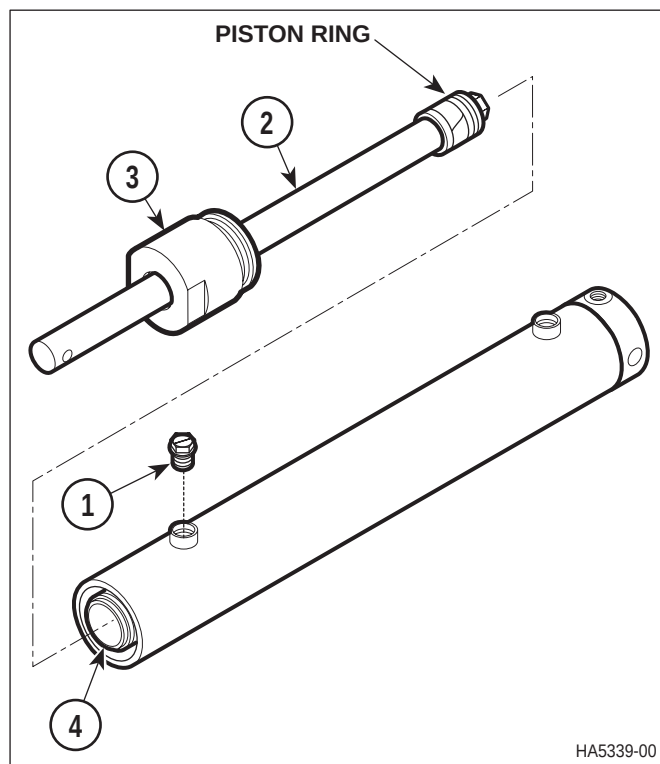
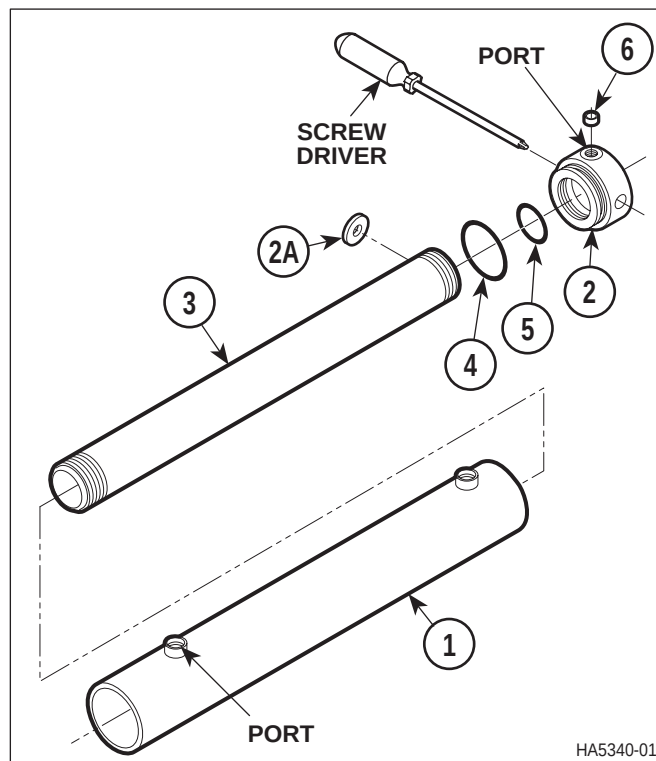

Figure 4-16. Cylinder Rod Assembly Removal / Installation
Figure 4-17. End Cap Removal / Installation
- (2) Remove plug (1, Figure 4-16) and allow oil to drain into a drain pan.
- (3) Extend cylinder rod assembly (2) approximately 4 in. (10 cm) by pulling on it.
- (4) Unscrew rod end cap (3) from cylinder tube (4), but *do not* remove rod end cap off of top of cylinder rod assembly (2).
- (5) Pull cylinder rod assembly (2) out of cylinder tube (4).
- (6) Remove reservoir tube (1, Figure 4-17) from end cap (2).
- (6) Using screwdriver to hold cylinder rod assembly (1) stationary, install o-ring (4) and piston assembly (3) on cylinder rod assembly (1) and secure with jam nut (2).
- (7) Install ball retainer (6, Figure 4-17) in end cap (2). Push ball retainer in as far as it will go.
- (8) Coat o-rings (4 and 5) with Vaseline or oil.
- (9) Install o-rings (4 and 5) on end cap (2).
- (10) Using a screwdriver to hold end cap (2) stationary, install cylinder tube (3) on end cap (2).
- (11) Install magnetic washer (2A) on cylinder tube (3).
- (12) Install reservoir tube (1) on end cap (2), making sure both ports are aligned with each other. Make sure reservoir tube is firmly seated against end cap.
- (13) Coat piston ring with Vaseline or oil. See Figure 4-16.
- (14) Using care not to damage piston ring, install cylinder rod assembly (2, Figure 4-16) into cylinder tube (4).
- (15) Screw rod end cap (3) onto cylinder tube (4).
- (16) Install plug (1).
- (17) Install elevation cylinder (Refer to para 4.13).
- (18) Dispose of used oil in accordance with local regulations.